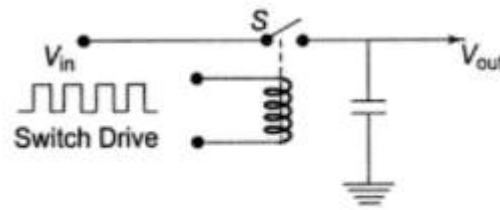

Fig. 2.3 Simple sample hold circuit
- A sample and hold circuit is shown in Fig 2.3 and it consists of a switch and a capacitor.